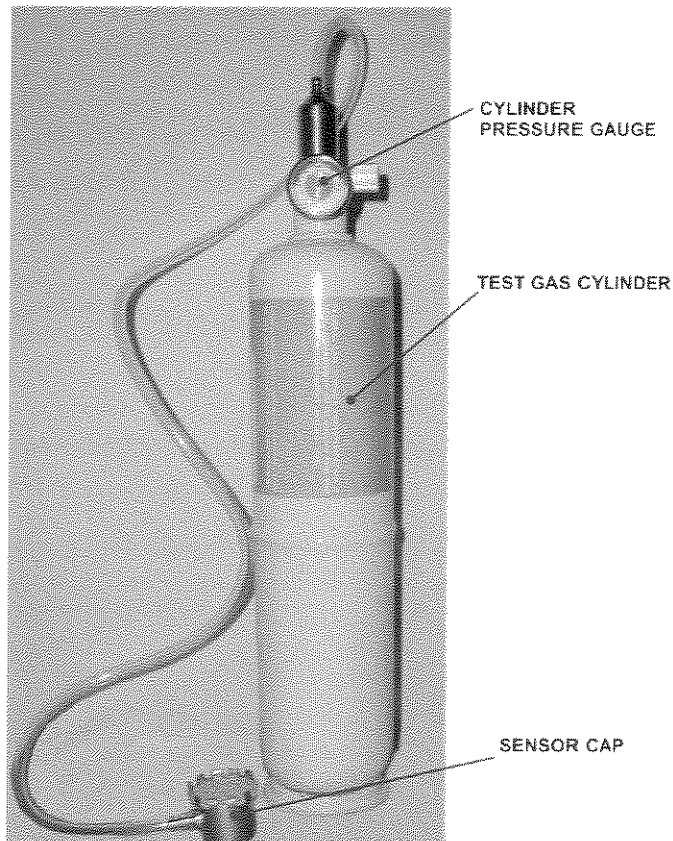

Figure 4-6. Test Gas Kit
1. Set up the span gas cylinder assembly, (see Figure 4-6), by the sensor in the Burn Room and remove the protective cover by undoing the two nuts on the bottom of the cover.
This procedure is performed at periodic intervals, if the Span Check procedure fails or a new gas sensor is installed, the following procedure must be performed. This non-intrusive calibration procedure is required to ensure proper operation of the sensor. A calibration magnet and the equipment shown in Figure 4-6 are used to perform this procedure.
Figure 4-6 shows the kit components ready for use. The gas pressure gauge and sensor cap assembly is screwed on to the top of one of the cylinders until it is tight. The knurled knob to the right of the gauge allows gas to flow to the sensor cap when it is opened.
Refer to Figure 4-6 for details on Test Gas Kit.